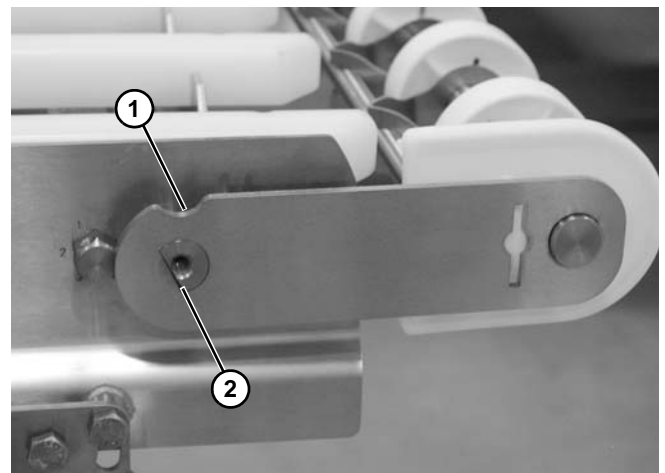

Figure 65
Make note of curved notch (**Figure 65, item 1**) and notched end (**Figure 65, item 2**) of each tail plate before removing assembly.